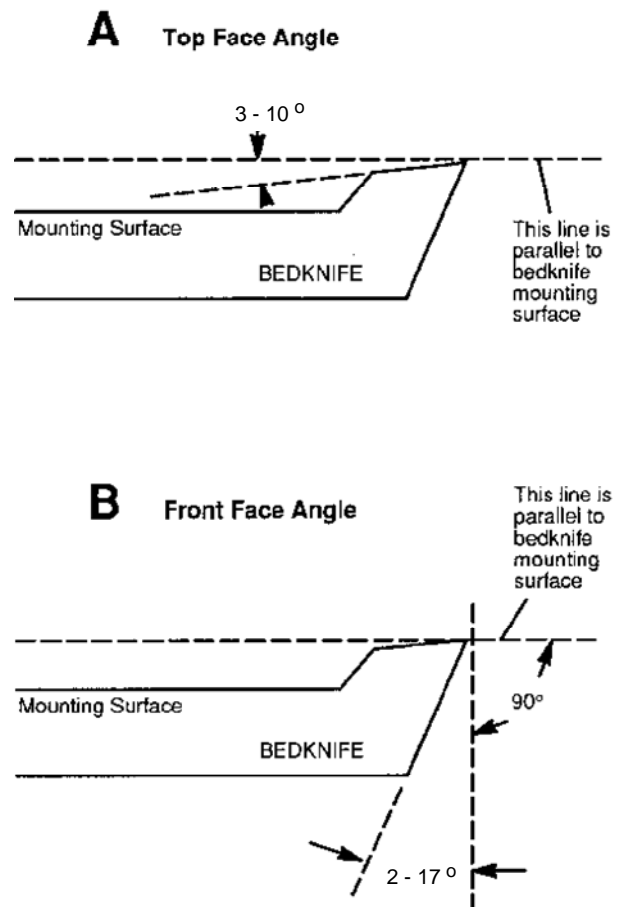

FIG. 12
- \* There will be a 3-10 degrees clearance angle ground on the top face. It will **usually** be measured relative to the bedknife mounting surface. See FIG. 12-A.
- \* There will be a 2-17 degrees clearance angle ground on the front face. It will **usually** be measured relative to a line **perpendicular** to the bedknife mounting surface. See FIG. 12-B.